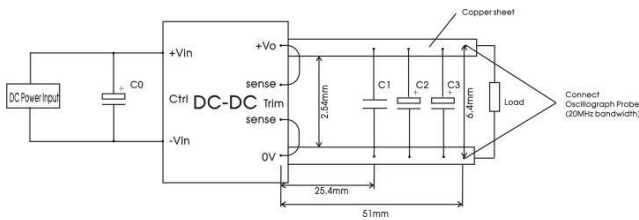

Fig.1
①The Ctrl pin voltage is referenced to input -Vin.
②For ripple and noise measuring method, please refer to Fig.1
All the DC-DC converters of this series are tested before delivery using the recommended circuit shown in Fig. 1.